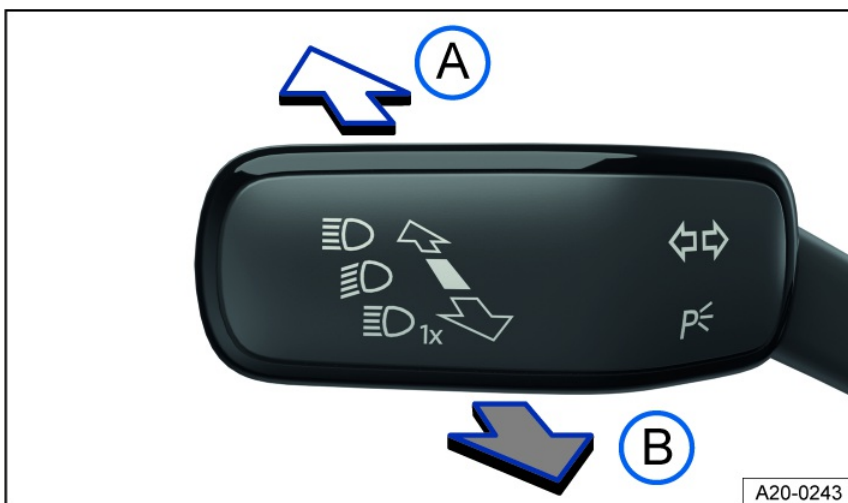

Fig. 102 On the left side of the steering column: turn signal and high beam lever.
3. Press the turn signal and high beam lever forward out of the center position *fig. 102*.
1. Pull the turn signal and high beam lever backward out of the center position *fig. 102*.
1. Pull the turn signal and high beam lever backward out of the center position and hold it *fig. 102*.